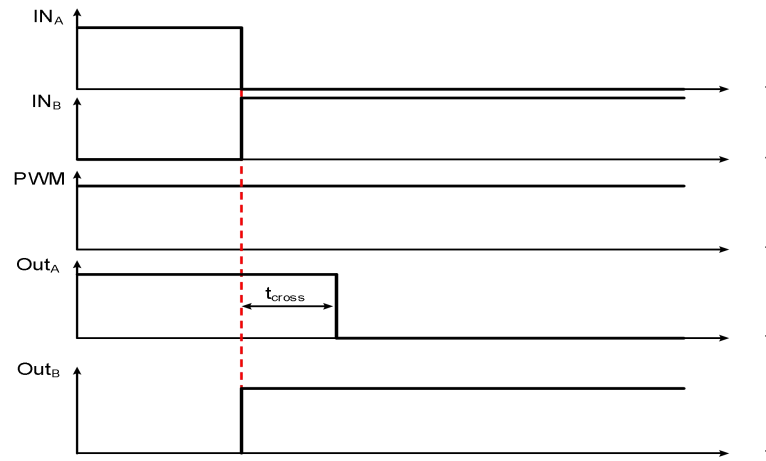

Figure 6. Low-side turn-on delay time
- (5) See Figure 6.
- (6) Guaranteed by design.